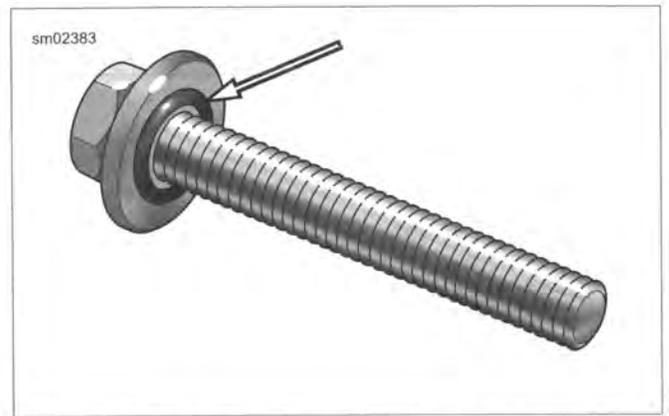

Figure 5-27. Primary Chaincase Sealing Fastener
5. See Figure 5-27. Insert **new** sealing fasteners.